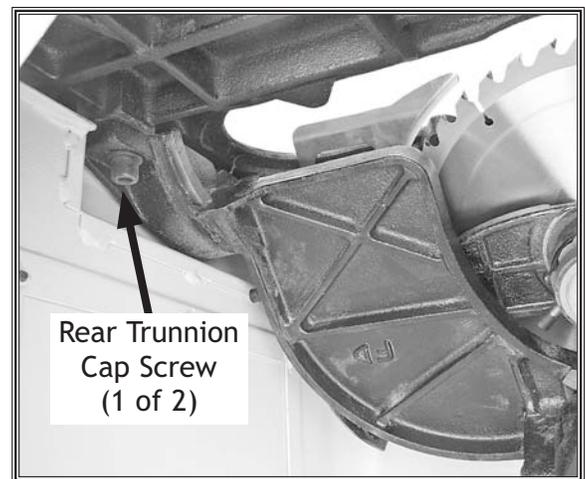

Figure 96. Location of the rear trunnion cap screw (1 of 2).
7. To adjust the table, loosen the two cap screws that secure the rear trunnion to the underside of the table 1-1½ turns (see **Figure 96**), and slightly tap the trunnion with the dead blow hammer in the needed direction.